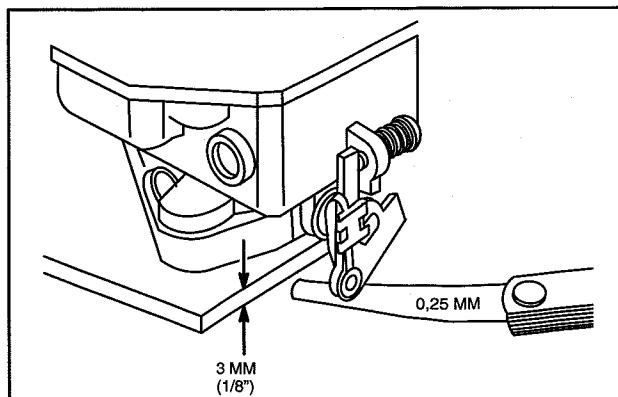

Fig. 107
1. Lay carburetor on 3mm (1/8") raised flat surface and check throttle and choke shaft clearance as shown in Fig. 107.